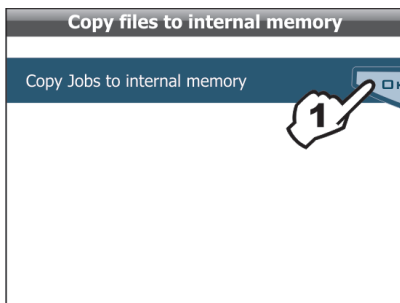

Fig. 64
- 1 Select item **Copy Jobs to internal memory** (Fig. 64) and press **OK**;